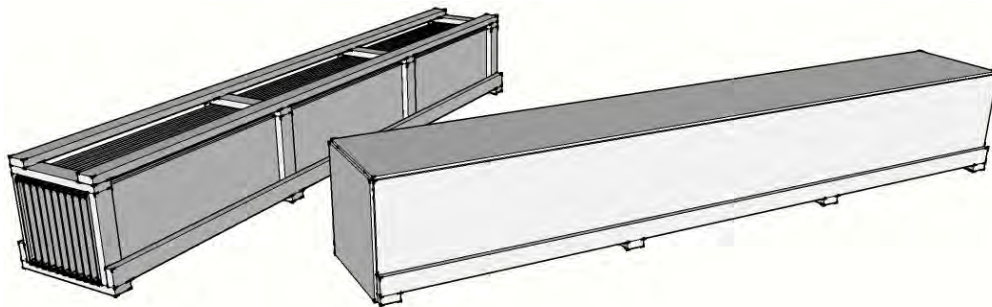

Figure 1: Packaging for panels (open crate and completely enclosed crate options)
- SL150 panels are shipped in bundled units of approximately thirty-two panels. Panels are stacked on edge and are packaged with wood blocking in an open crate design. Space is provided under crates for access by forks of lift truck or inserting lifting slings/straps when offloading by crane (*Figure 1*).